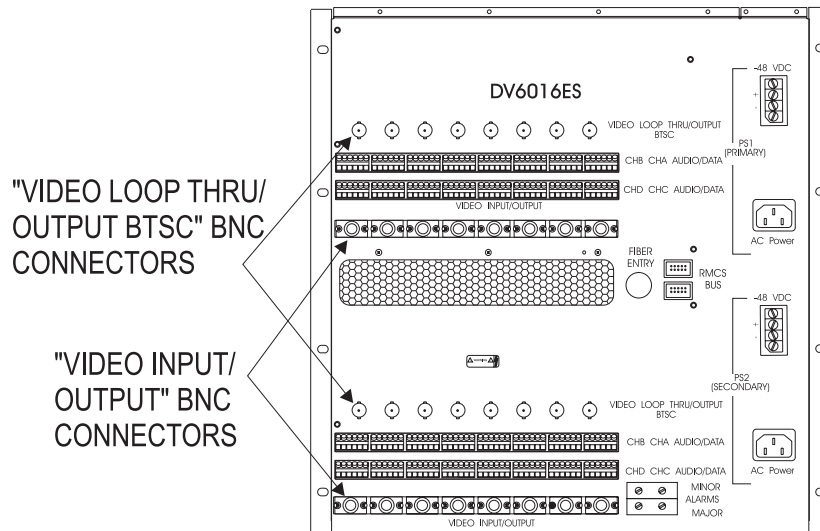

Figure 7. Location of Electronic Signal Input/Output Connectors on the rear of the DV6016ES Equipment Shelf
2. Attach the video cable for each module to its VIDEO INPUT/OUTPUT connector at the backpanel of the unit (see Figure 7). Each connector is associated with the module in the slot in front of it, and connectors and equipment slots are correspondingly numbered.
2. Connect the IF signal cable to the “VIDEO INPUT/OUTPUT” connector on the backpanel of the DV6016ES shelf at the slot location of the IF encoder module (see Figure 7).